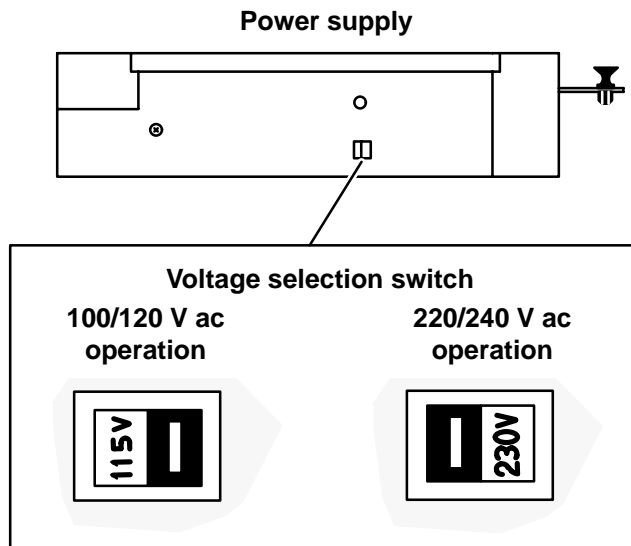

Figure 12-5 Setting the Voltage Selection Switch
2. Set the voltage selection switch on the power supply to the ac power voltage for your site as shown in Figure 12-5. If your installation site has 100 or 120 V ac power, set the voltage selection switch to 115 V; if it has 220 or 240 V ac power, set the switch to 230 V.